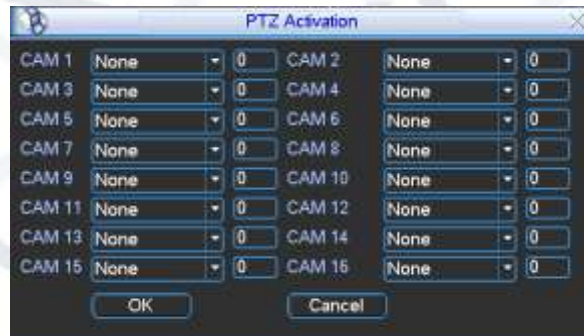

Figure 4-54
- ✧ In Figure 4-54, click 'Select' button, you will be shown an interface as in Figure 4-55. Here you can set the activation operation such as preset tour, pattern and enable.